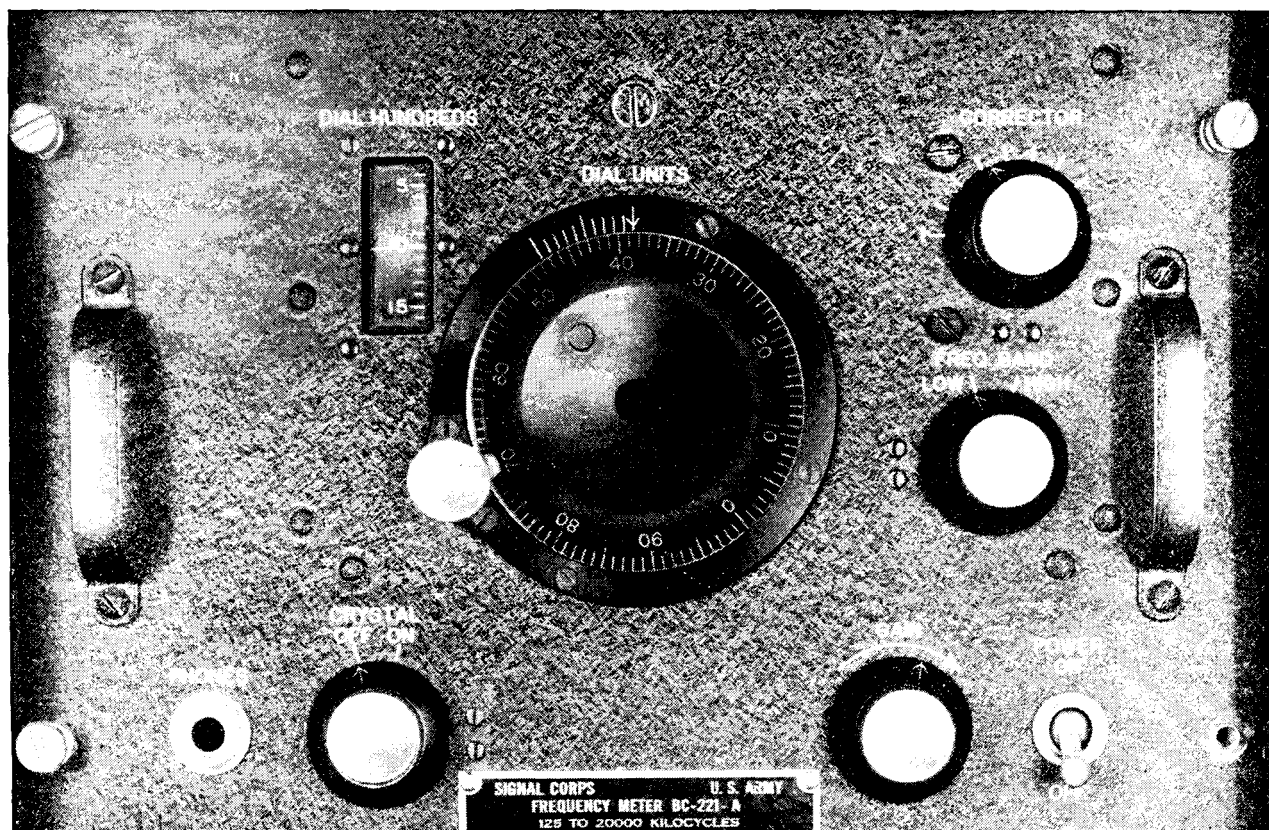
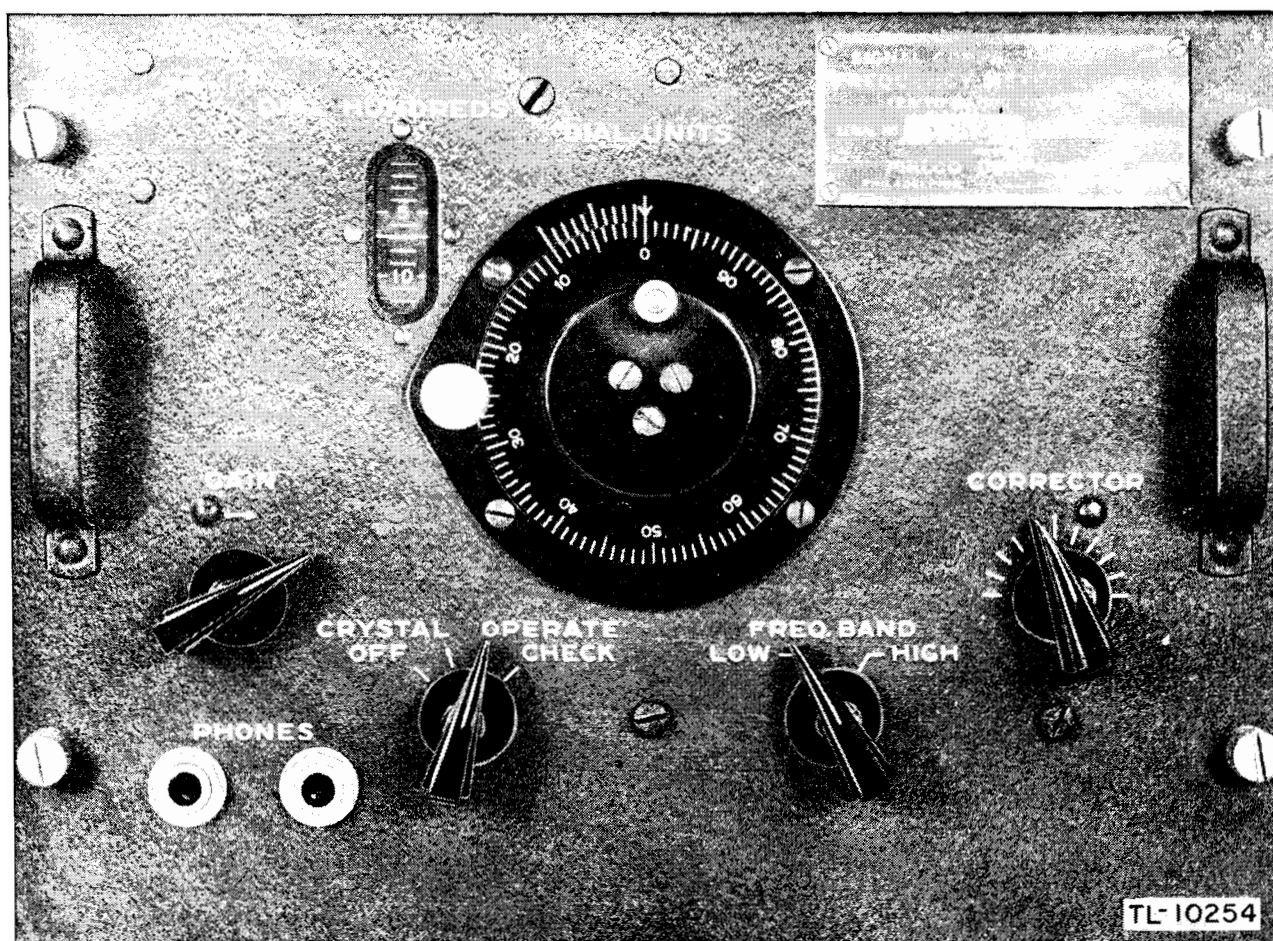

Figure 3. Frequency Meters BC 221 -A, BC 221 -C, and BC 221 -D, control panel lay-out.
Figure 4. Frequency Meters BC-221-B, BC-221-E, BC-221-N, BC-221-Q, BC-221-AA, BC-221-AE, and BC-221-AG, control panel lay-out.
d. The various models of Frequency Meter BC-221-(&) come with six different types of control panel arrangement. Some of these arrangements are further modified in the location of the antenna post, ANT, and sometimes a ground post, GND, mounted on the control panel instead of on top of the cabinet. These modifications are shown on the figures of the particular models. (See figs. 3 through 8, incl.)
NOTES. 1. In addition to the controls shown on figure 4, the control panel of the BC-221-AA and BC-221-AE contains an antenna post, ANT, and the control panel of the BC-221-AG contains both an ANT and GND post.
operations. All models have a **FREQ. BAND LOW-HIGH** switch. In the case of figure 5, it will be seen that a third function, **CRYSTAL ONLY**, is combined with this switch. The greatest difference between the various models lies in the switch which controls the operation of the crystal oscillator. This switch is called the operation switch throughout this manual. In figures 3 and 5, it is marked **CRYSTAL OFF-ON**; in figure 4, it is marked **OFF-CRYSTAL-OPERATE-CHECK**; in figure 8, **OFF-WARM-UP-CRYSTAL-OPERATE-MODULATE-CHECK**; in figure 6, **HET. OSC-XTAL CHECK-XTAL ONLY**; and in figure 7, **MOD.**